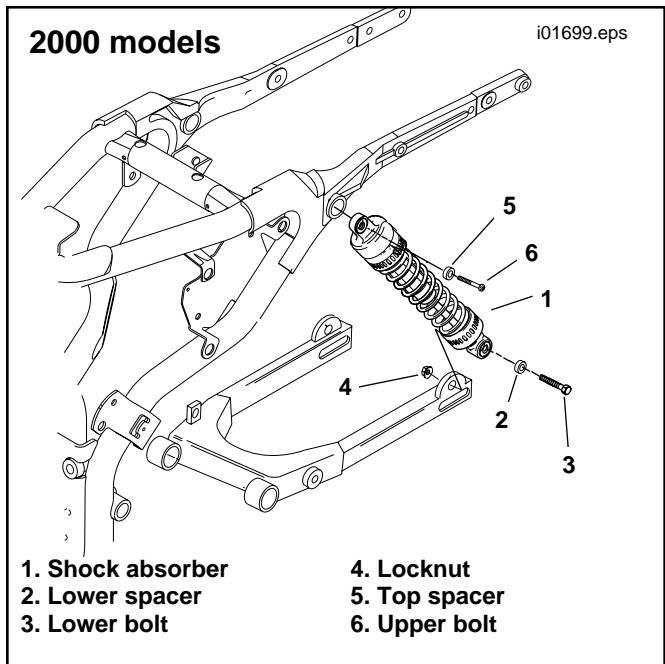

Figure 2. Rear Shock Absorber Installation (2000 models)
1. See Figure 2. Position bottom end bushing of shock absorber (1) against outboard side of rear fork mount. Place lower spacer (2) on lower bolt (3). Insert lower bolt (3) through shock absorber bottom bushing and rear fork mount. Apply 2-3 drops of Loctite® Threadlocker 242 (blue) to threads of bottom bolt (3). Place locknut (4) on bolt (3). Tighten locknut (4) to 30-50 ft-lbs (41-68 Nm).
2. Place top spacer (5) from kit on upper mounting bolt (6), beveled side out. Apply 2-3 drops of Loctite® Threadlocker 242 (blue) to threads of bolt (6). Install bolt through shock bushing and into threaded portion on frame. Tighten to 30-50 ft-lbs (41-68 Nm).